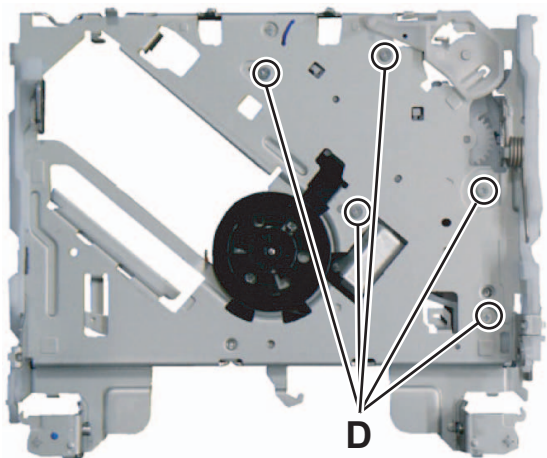

Fig.9
3.2.6 Removing the Feed motor (See Fig.9, 10)
- (1) Remove the 5 screws **D** attaching the Feed motor assy. (See Fig.9)